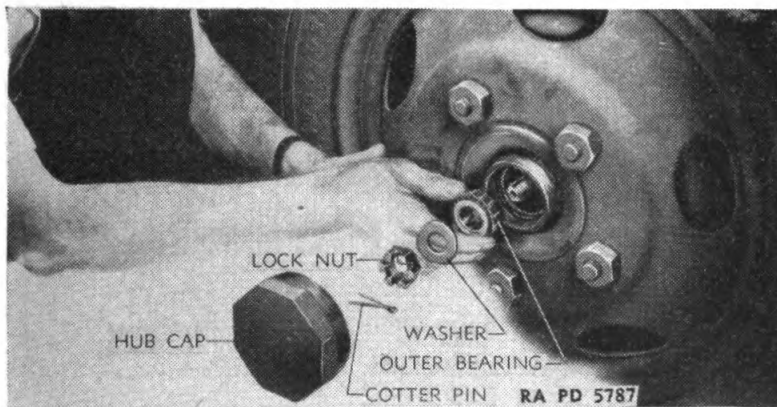
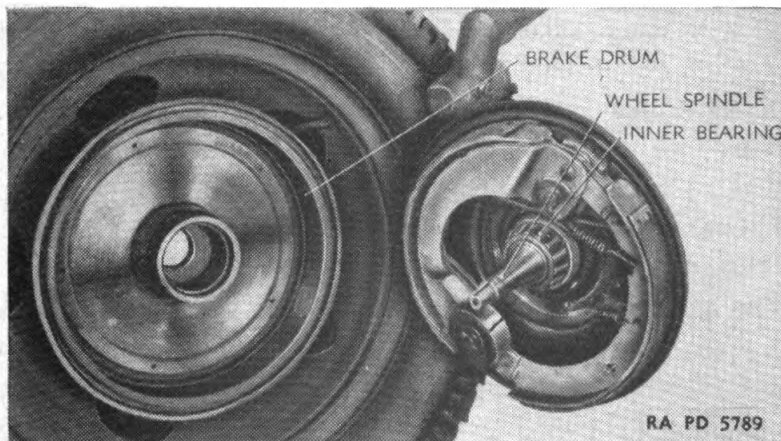

FIGURE 72.—Disassembly for removal of brake drum and wheel.
FIGURE 73.—Wheel and brake drum removed from brake assembly.
**79. Removal of brake drum and wheel (fig. 72).—***a.* Jack up the wheel.
*g.* Remove the wheel and brake drum from the axle spindle. The inner bearing and spindle (fig. 73) are now exposed for cleaning and lubrication.
**80. Installation of brake drum and wheel.—***a.* Place the inner bearing as far back as it will go on the wheel spindle (fig. 73). Place the wheel over the spindle and bearing and push it well back over the bearing. Place the outer bearing over the spindle (fig. 72).